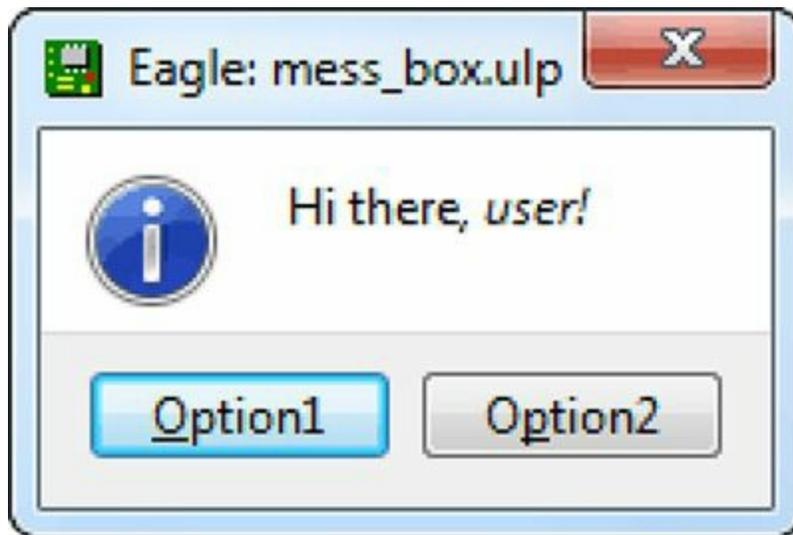
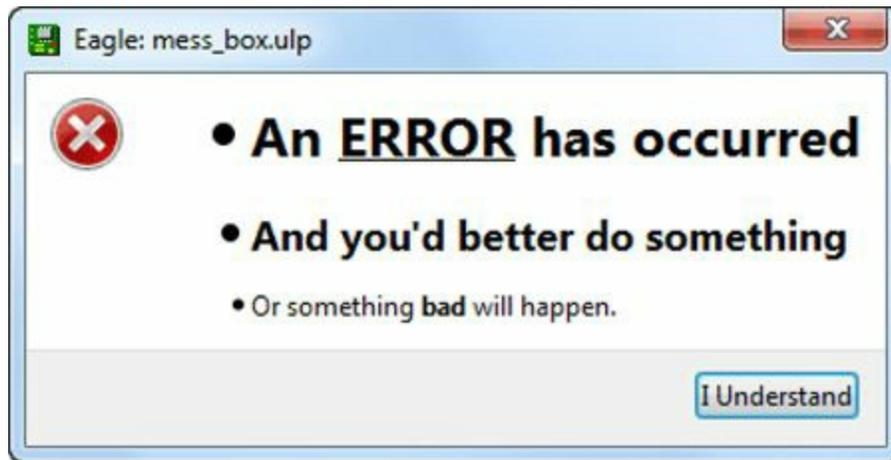

Figure 13.1: An Example Message Box
Figure 13.2: HTML Formatting
This produces the dialog box shown in Figure 13.1.
- **Information**—If the dialog provides information to the user, the information icon can be included by preceding the message string with the semicolon (;). This is the icon displayed in Figure 13.1.
Figure 13.2 shows what the resulting dialog looks like. It displays an error icon on the left because the message string starts with a colon.
It's interesting to compare the buttons in Figure 13.1 to the button in Figure 13.2. In Figure 13.1, the buttons are expanded to occupy the width of the dialog. The button in Figure 13.2 has more text, but its size is reduced to match that of the text.
In Figure 13.1, the left button is outlined and shaded. This means the left button is the dialog's default button, and if the user presses Enter, this button will be clicked.
In Figure 13.1, the text of both buttons contains an underlined character. That is, the `O` in the left button is underlined and the `p` in the right button is underlined. When the user presses either the `o` or `p`